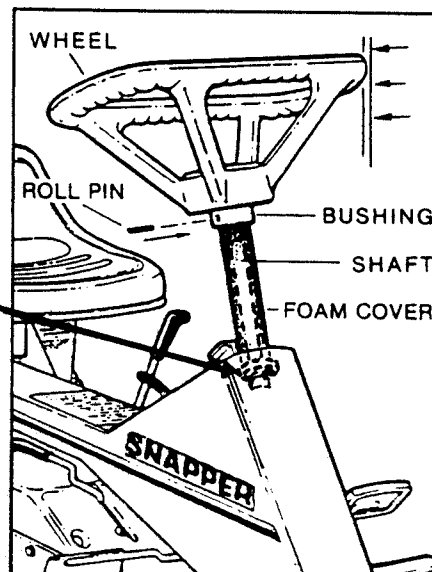

Figure 2 - INSTALLING STEERING WHEEL
**NOTE:** Support the wheel while driving the pin to prevent damaging the wheel, shaft, or bushing. Refer to FIG. 2.